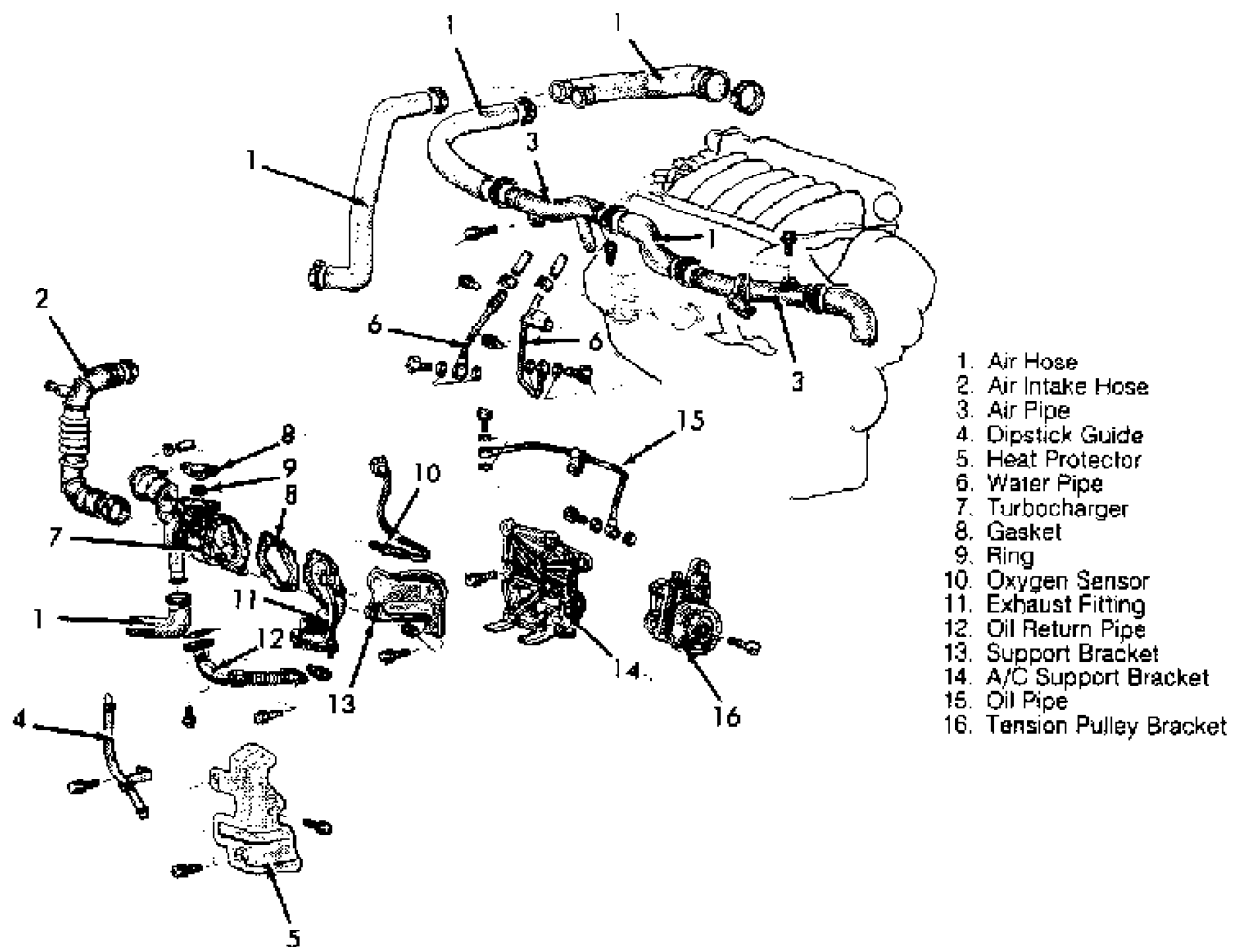

Fig. 10: Removing Front Turbocharger (Stealth & 3000GT)
2) Remove heat protector. Disconnect oxygen sensor electrical connector. Remove oil return pipe. Remove turbocharger support bracket and remove turbocharger from exhaust manifold. See Fig. 10.